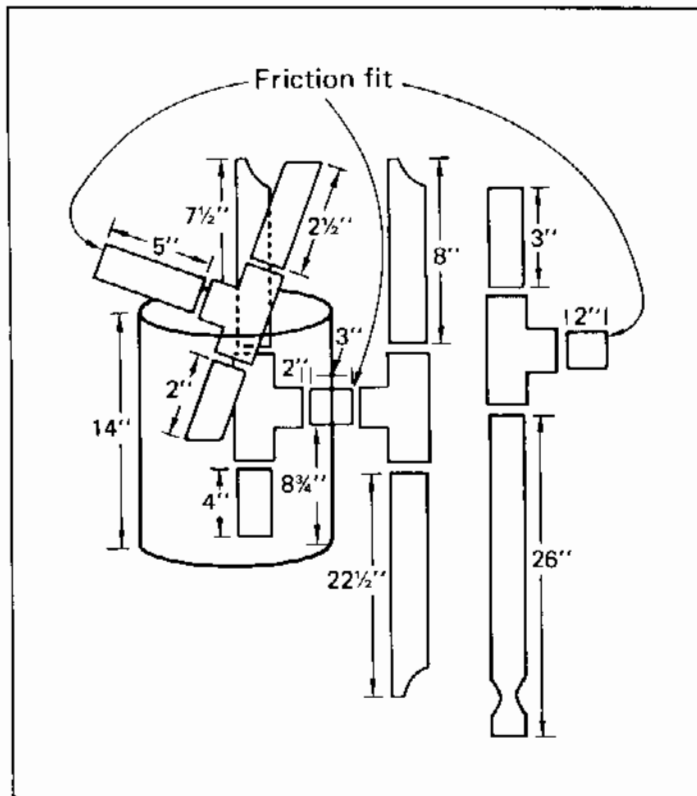

Figure 2. Cut, dimensions, and relative position of pipes for grey-water system (not to scale).
10. Cut all the pieces of 2" ABS pipe as shown in Figure 2. Where angle cuts are shown, the pipe can be cut slightly longer than required. The end of the angle cut is then flattened by cutting the pipe to the proper length. The end of the 26" outlet pipe is cut square so that it will hold the bottom plastic bucket down. (The plastic buckets will float out of position if they are not held down.) To allow the water to flow into the bottom of the pipe, two notched holes are cut into the opposite sides of the pipe about 1" from its bottom end.